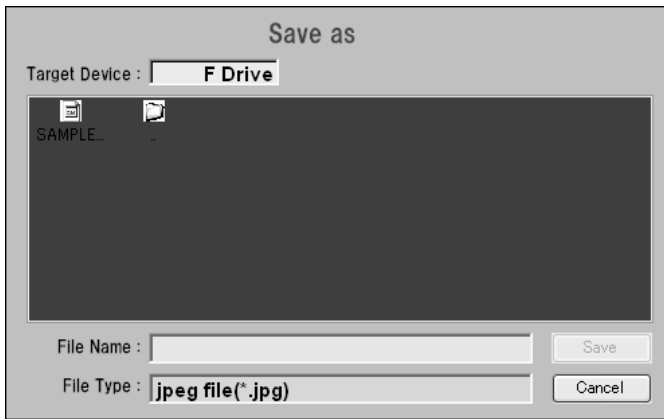
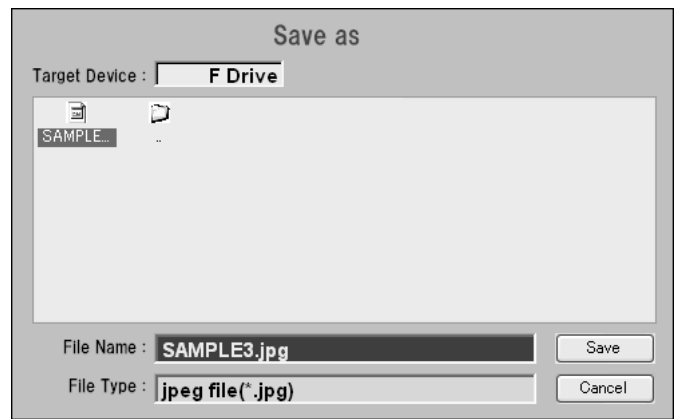

Fig.6-23 Save As screen
Fig.6-24 Save As screen
- ⑫ Press  to move the edition cursor to the file display area (see Fig.6-23).
- ⑬ Press  to move the edition cursor to File Name and press  to open Popup Edit Box to enter the file name.
If the same operation as ⑥ to ⑦ is made, the screen hardcopy with the file name being set (SAMPLE3.jpg) is generated in the specified folder and Save as screen is closed (see Fig.6-24).